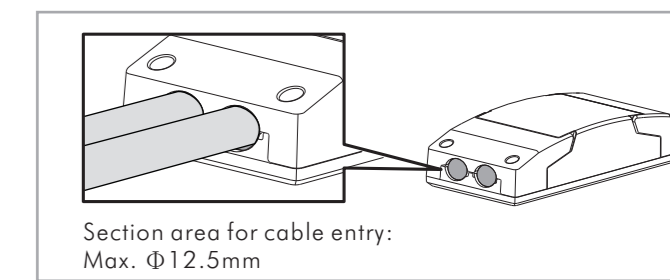

FIG.16
- Adjust the knob to "∞" when the ambient light level matches with the desired value (See FIG.16-A).
- When the knob is set to "∞" originally, it should be adjusted to other position more than 1sec, then goes back to "∞" (See FIG.16-B).
- Then the load is off. LED starts to flash slowly indicating entering into learning mode. Learning will be completed within 25 seconds. Afterwards, the LED and load will keep on 5sec or LED flashes quickly for 5sec and load is off to confirm successful learning (See FIG.16-C).